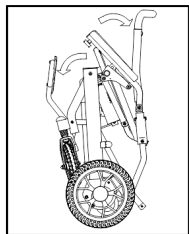

Figure 2
4.1.1 Remove the electric wheelchair from the box and place it on a flat floor. Cut all zip ties securing the wheelchair. First, flip the footrest down into position. Hold the handle with one hand and the seat frame with the other, then push outward to unfold the wheelchair until the folding frame locks into the groove of the limiter. Secure both side latches, place the soft seat cushion on the seat, and fasten it with Velcro (see Figures 2, 3, and 4).